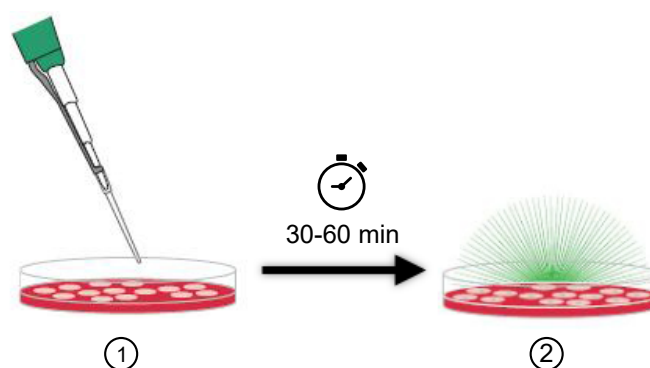

Figure 1 Endpoint assay workflow using the CellEvent™ Caspase-3/7 Green Detection Reagent
- **Streamlined protocol**—Add the reagent to cells, incubate for 30–60 minutes, then measure fluorescence; no cell lysis or wash steps required (see Figure 1 and “Perform an endpoint assay” on page 3).